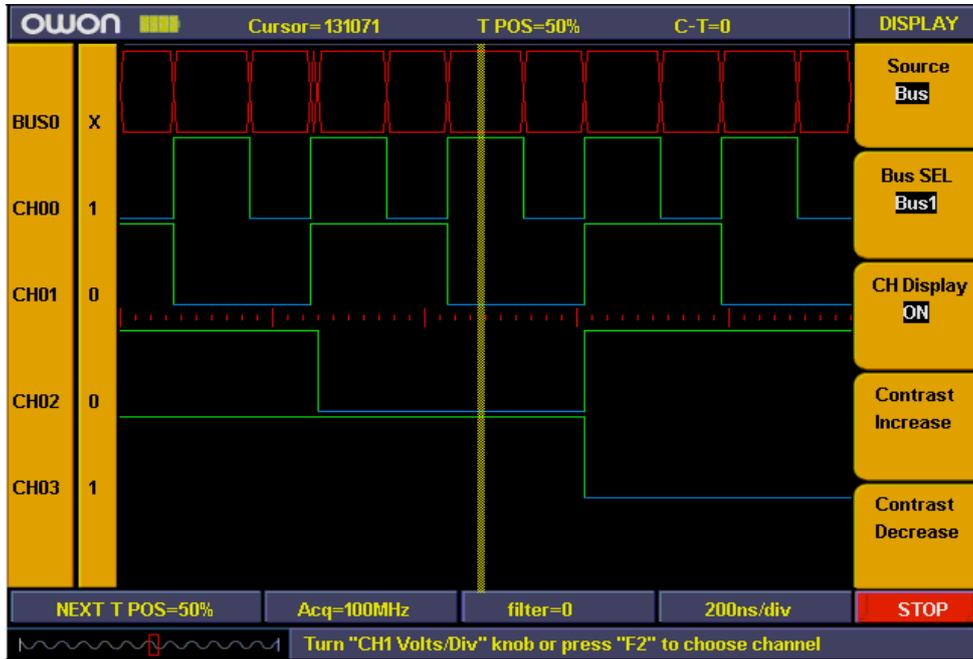

Fig.5-69: Display setting
- Channel display setting finished (refer to Fig.5-69)